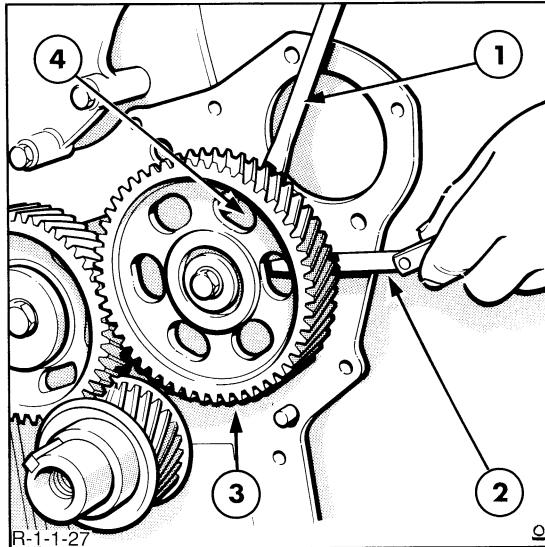

Figure 27
9. Pry the camshaft gear away from the thrust plate and using a dial indicator or feeler gauges, measure the clearance, Figure 27. Install a new camshaft thrust plate if the camshaft end play exceeds the specified limits, see "Specifications" – Chapter 3.